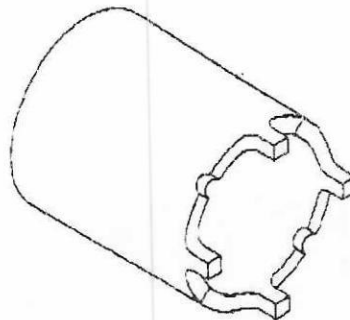

Figure 2. 4-Lug socket.
Jack-stands	4-Lug Socket for Dana 44 (Fig 2)*
4. Using hub spindle nut socket (See Figure 2) and torque wrench torque nut to 50 ft-lb. Rotate wheel back and forth while tightening the nut. This helps seat the bearings.